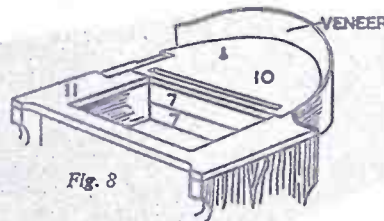

Fig. 8
Pieces (10) and (11) are next glued in place (Fig. 7). Then cut a shallow recess in pieces (10) and (11) to take the hinge which secures the lid (13), as seen in Fig. 8, which also shows the addition of the veneer which covers the edges of pieces (7), (8) and (10). Now recess pieces (12) and (13) for hinging, and hinge this lid assembly to the body (Fig. 9). Notice the groove in piece (10) in which will lay the lid stay made from dowelling.